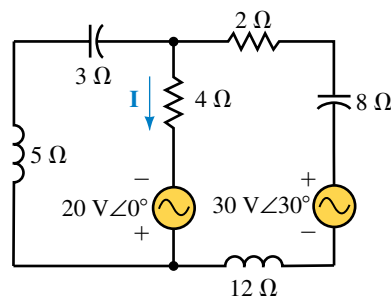

FIGURE 19-57
11. Consider the circuit of Figure 19-57.